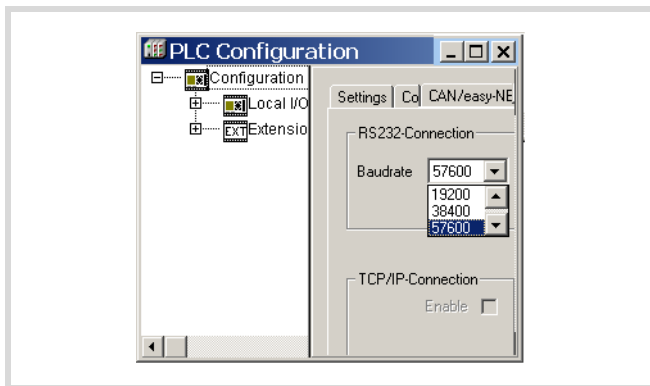

Figure 74: Specifying the CPU's communication settings
The CPU parameters can then be defined again (→ figure 74). always making sure that you have the same settings on the PC.
- In the Baud rate list box select the baud rate (e.g. 57600 Bit/s as shown in figure 74).